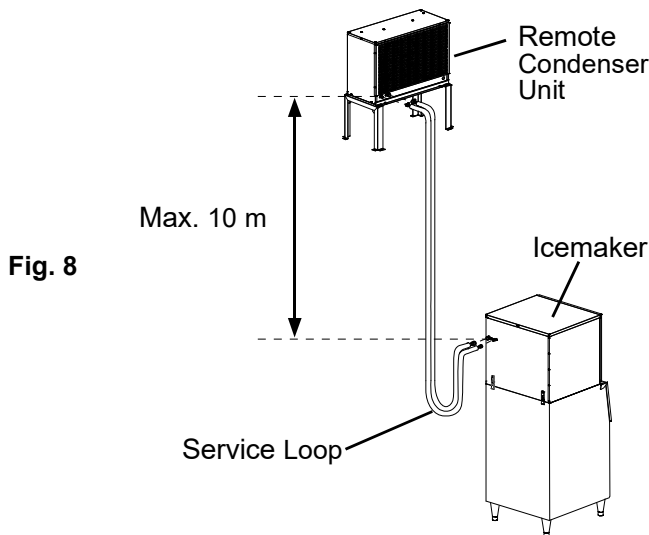

Fig. 8
3. The maximum vertical distance between the remote condenser unit and the icemaker is 10 m above or 3 m below the icemaker. These distances are measured fitting to fitting. See Fig. 8.